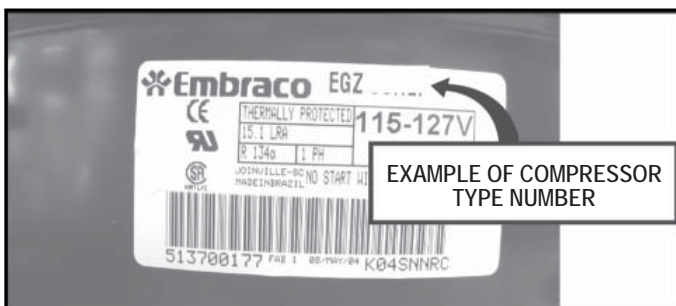

Figure 2
**NOTE:** This service kit is an approved replacement for only Embraco compressor types EGY100, EGZ100 and EGU70. Verify refrigerator has one of these compressors (See Figure 2). If not, go to step 13; kit parts will not work with Tecumseh or other compressors. Refer to service manual for Tecumseh specific parts.